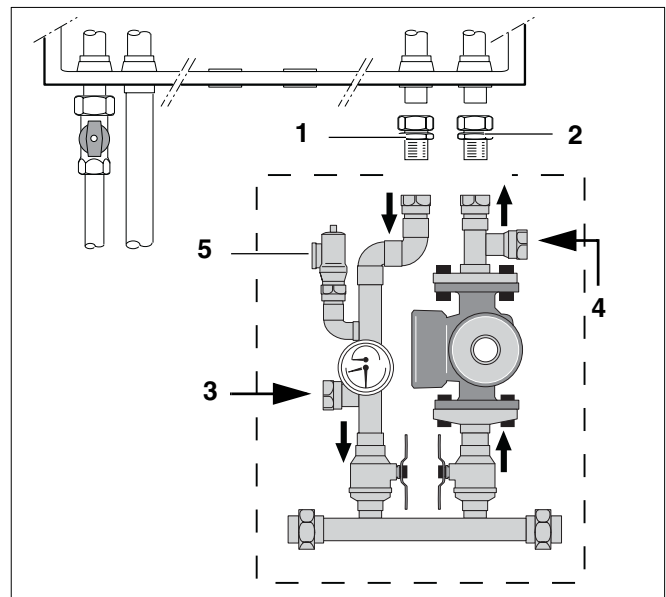
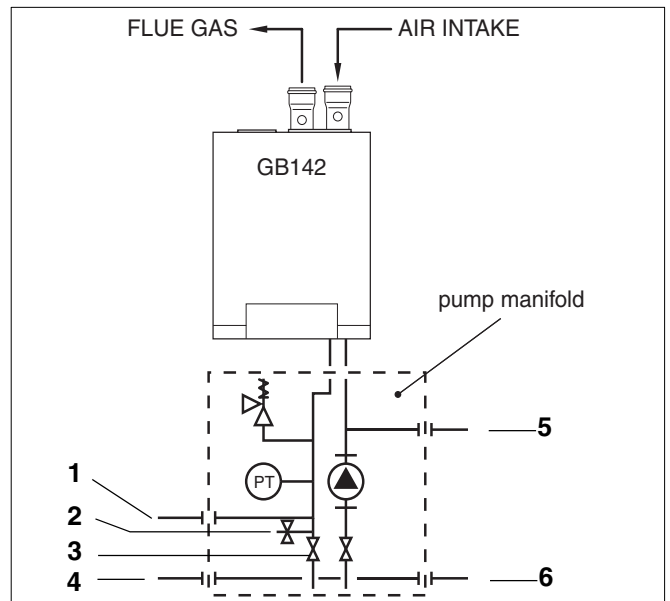

Fig. 9 Pump manifold installation
Fig. 10 Schematic representation of the appliance with the hydronic set
- Fit the compression fittings (fig. 9, pos. 1 and 2) first to the Hydronic set (see fig. 10, 11 and 12) and then to the appliance.
Fig. 10 is a schematic representation of fig. 9.